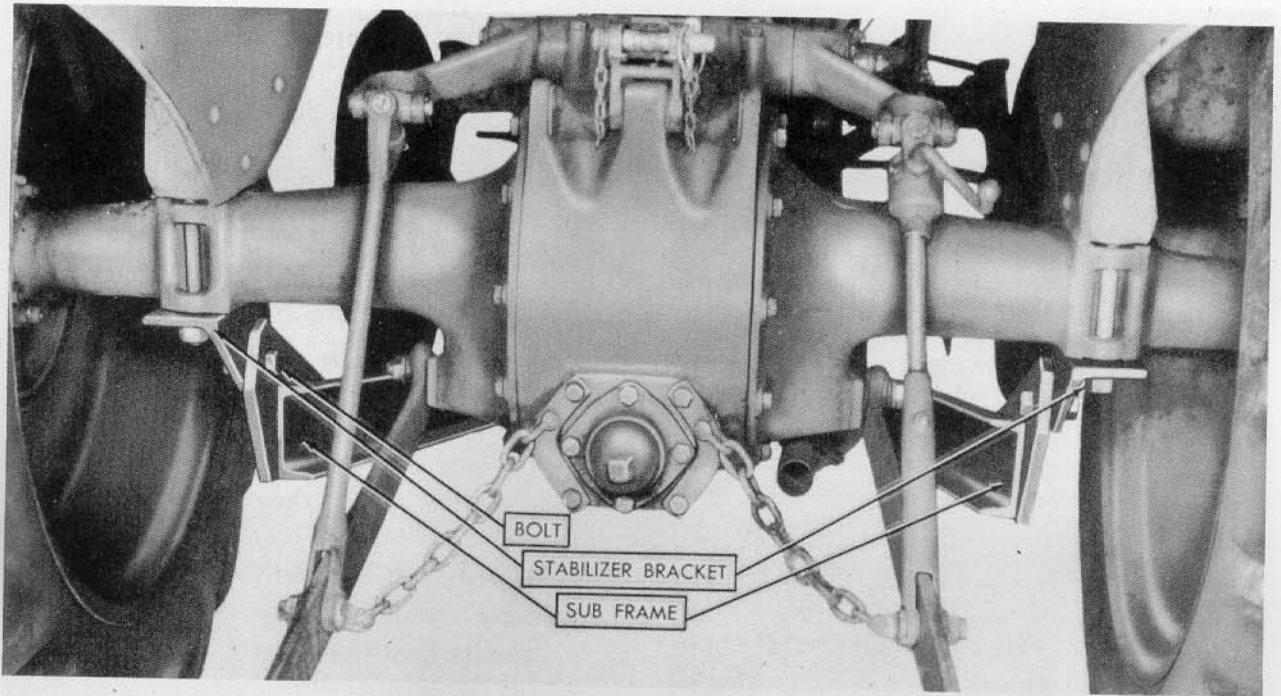

Figure 11
6. Raise the rear end of the sub-frame and attach it to the stabilizer brackets by inserting $\frac{5}{8}$ " x $1\frac{5}{8}$ " bolt through the hole in the bracket and the hole in the heavy plate welded to the side of the sub-frame. See Figure 11. Note that the welded plates fit inside of the brackets.